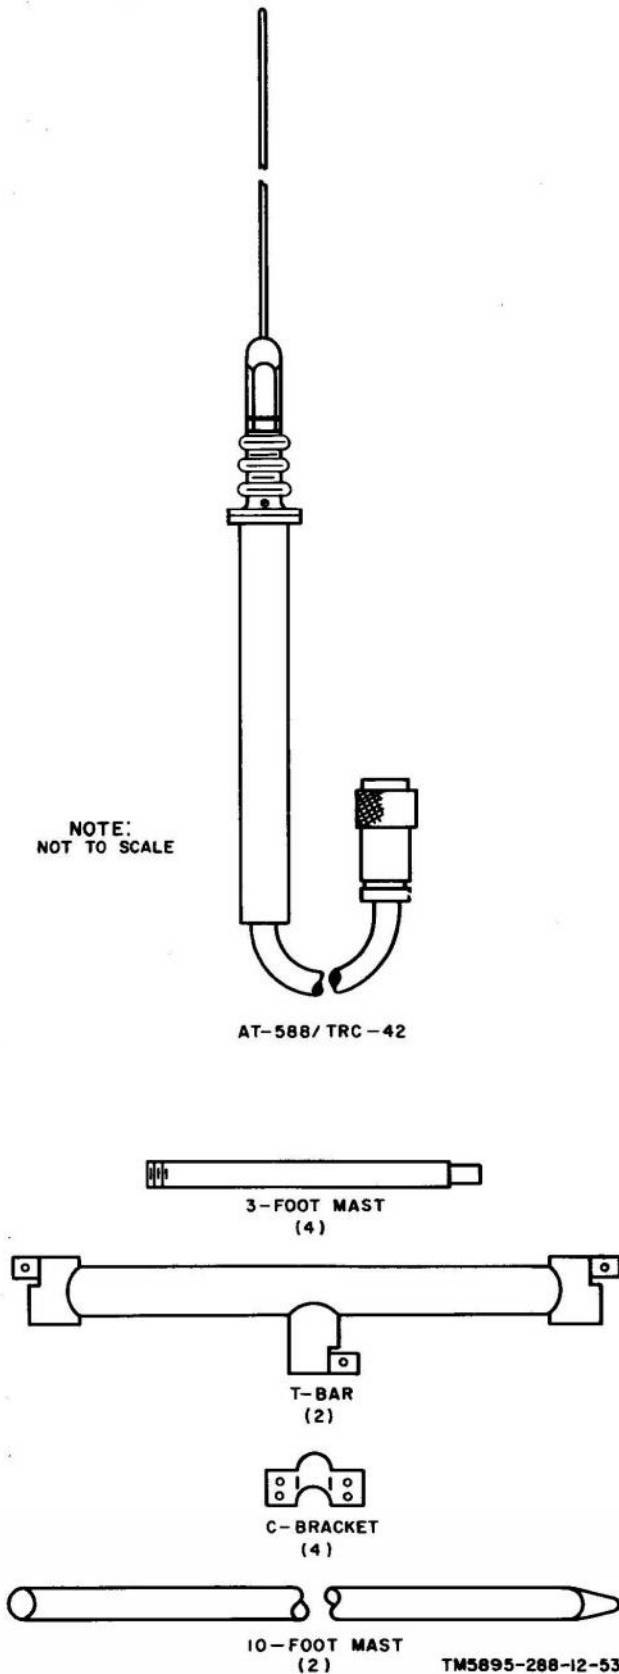

Figure 12. Antenna Assemblies AT-588/TRC-42 and antenna accessories.
b. Four Antenna Assemblies AT-588/TRC-42 (fig. 12) (two transmitting and two receiving) are used at the radio terminal shelter for vhf radio communication with the subscriber packages.
- d. Two AT-588/TRC-42 (fig. 12).